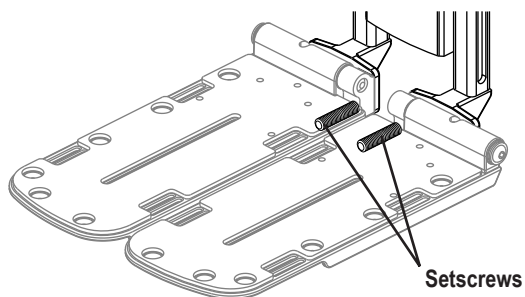

Figure 11. Angle Adjustment for Foot Plate
1. Flip up the foot plate and locate the screw. **See figure 11.**